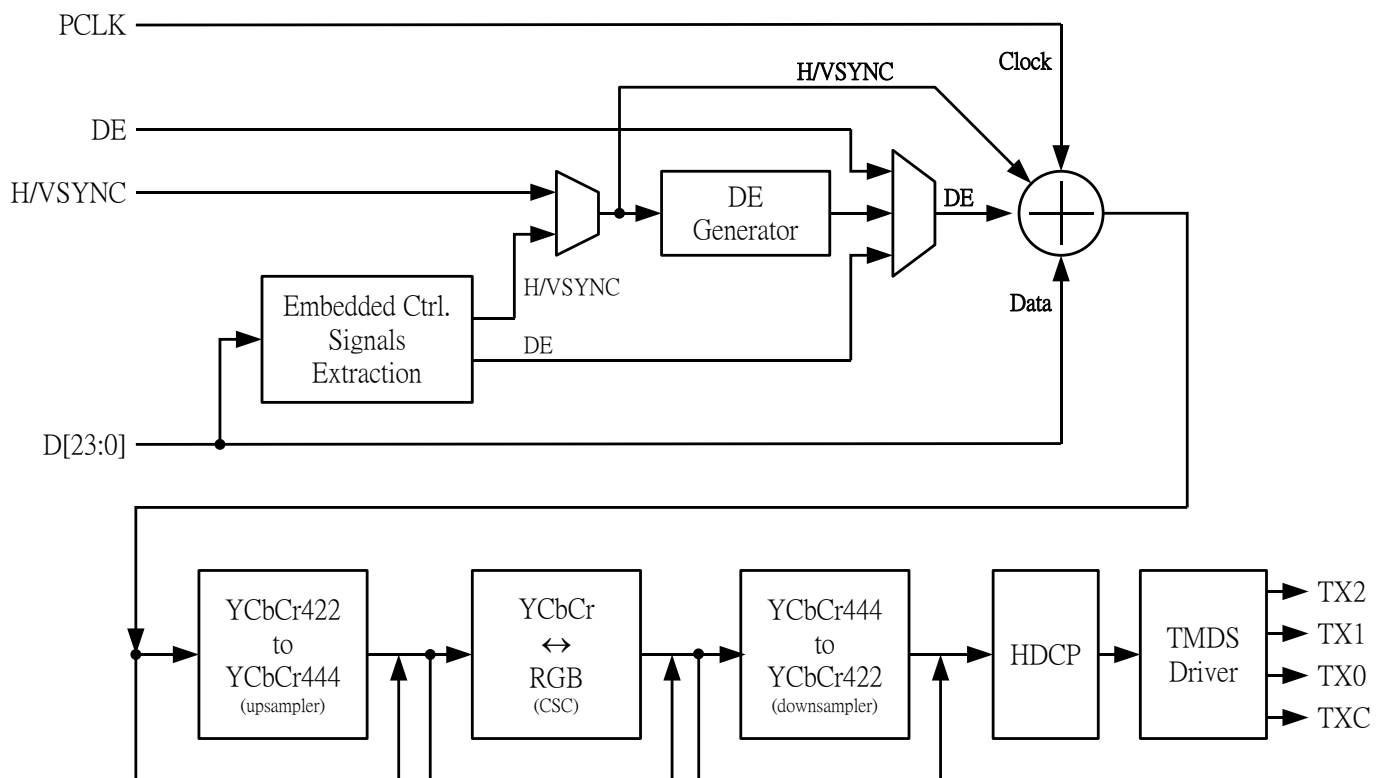

Figure 3. Video data processing flow of IT66121
Figure 3 depicts the video data processing flow. For the purpose of retaining maximum flexibility, most of the block enabling and path bypassing are controlled through register programming. Please refer to IT66121 Programming Guide for detailed and precise descriptions.
As can be seen from Figure 3, the first step of video data processing is to prepare the video data (Data), data enable signal (DE), video clock (Clock), horizontal sync and vertical sync signals (H/VSYNc). While the video data and video clock are always readily available from input pins, the preparation of the data enable and sync signals require special extraction process (Embedded Ctrl. Signals Extraction & DE Generator) depending on the format of input video data.
Although not explicitly depicted in Figure 3, input video clock (PCLK) can be configured to be multiplied by 0.5, 1, 2 or 4, so as to support special formats such as CCIR-656 and pixel-repeating. This is also enabled by software programming.